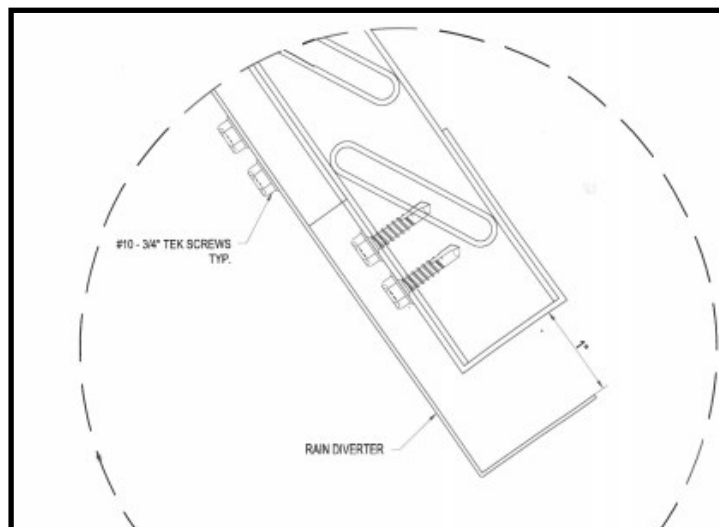

Fig 7
3. Install the Rain Diverter using the #10 x 3/4" Tek Screws. (see fig 7)